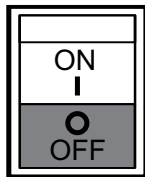

Figure 37. Idle Control Switch ON (GFCI Test)
2. Place idle control switch (Figure 37) in the **OFF** position. This will allow the engine speed to run at about 3600 RPM's (*high speed*).